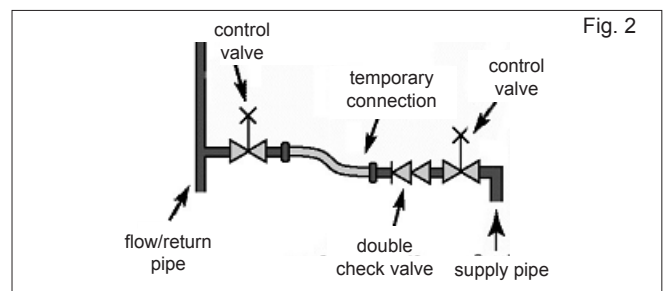

Fig. 2
- Locate the filling valve connections (usually beneath the boiler, see fig. 2).